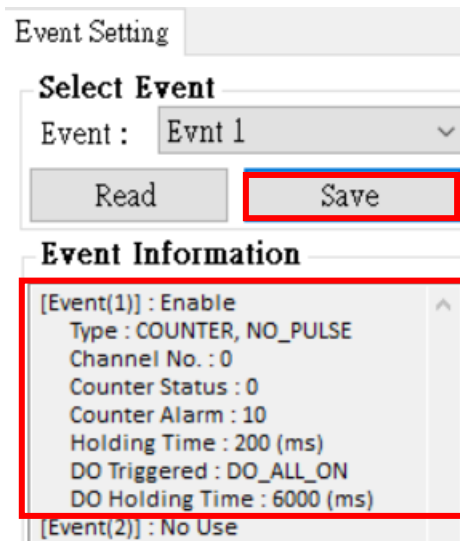

Figure 5.10.30
K. After setting, select “SAVE” to save as shown in Figure 5.10.30. Complete the list below and the setting will be displayed